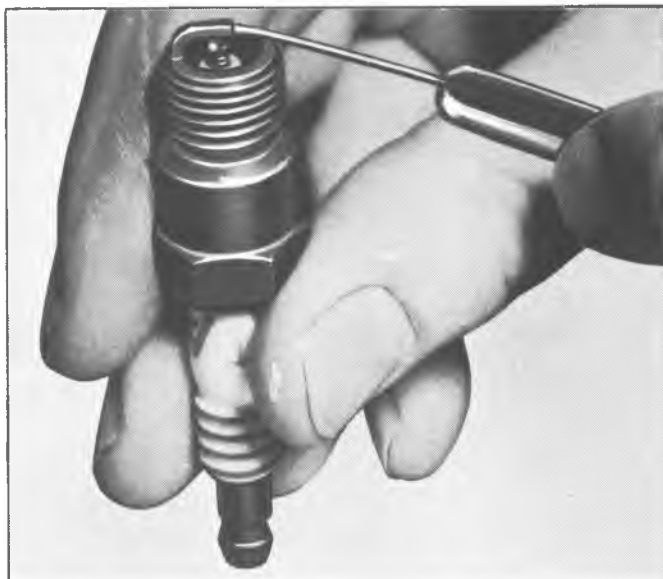

Fig. 22i—Checking Spark Plug Gap
3. Lubricate and slide weight cam over mainshaft and install weights and spring (fig. 22i).
### Adjusting Spark Plug Gap (Fig. 22i)